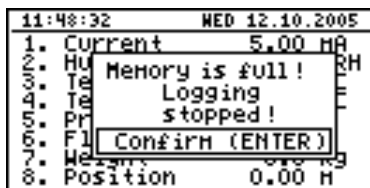

Fig. 7.15. Warning in "until full" recording mode
**"until full"** - once the entire available memory is filled with recorded measurement results the recording will be stopped and a warning message (Fig. 7.15) shall be displayed; this warning message must be confirmed with the [ENTER] key.